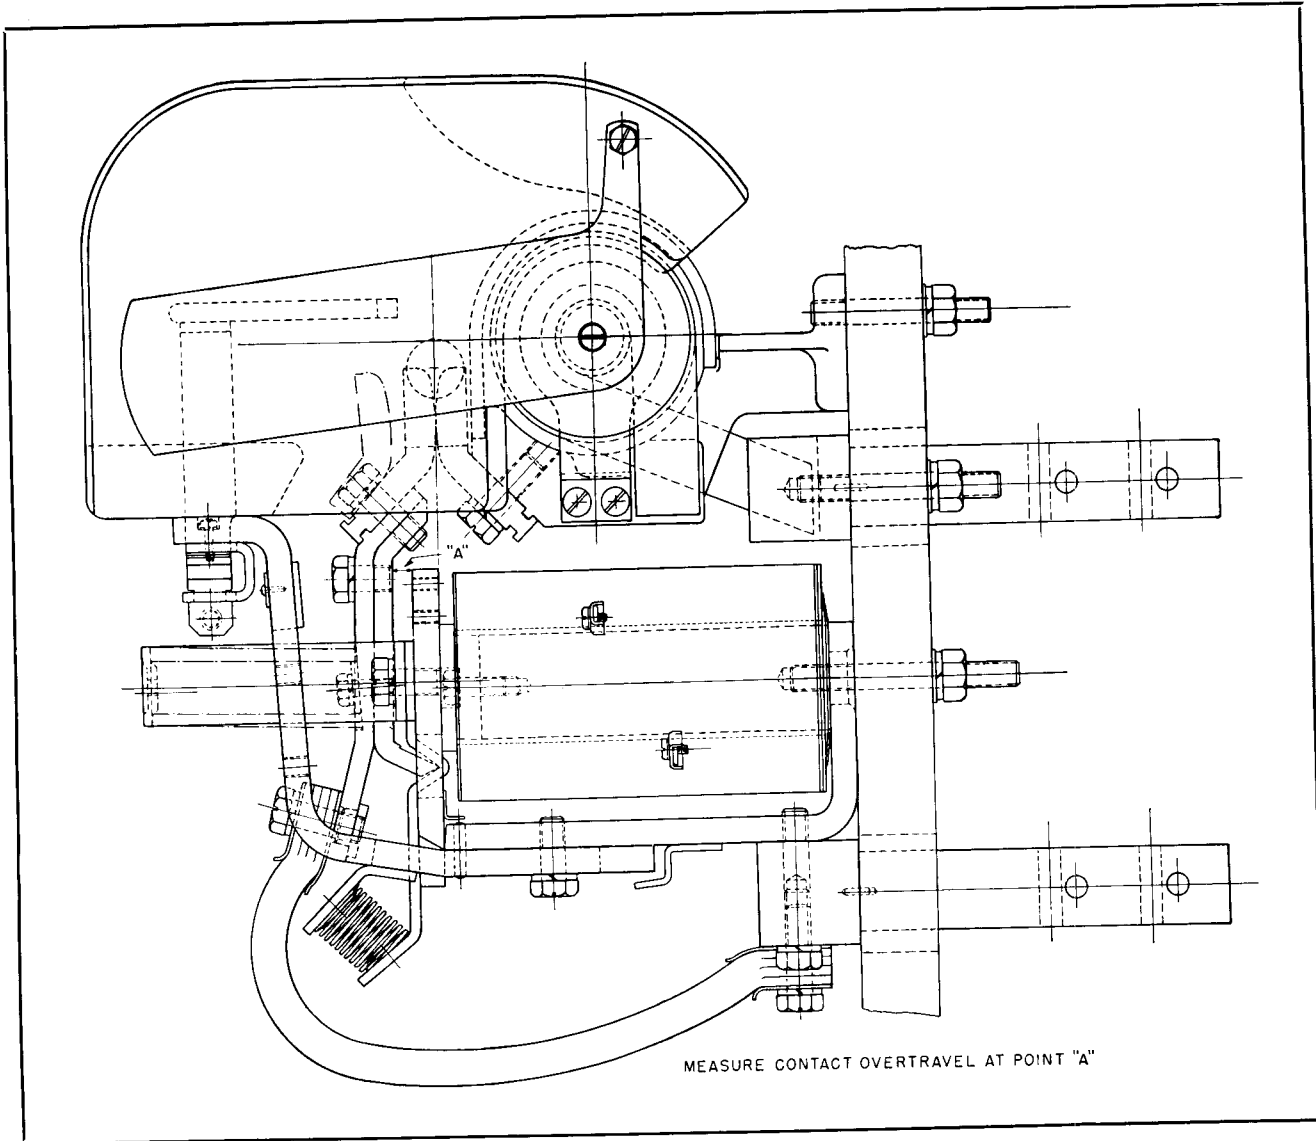

FIG. 3. Sectional View of Type M-810 Contactor with Armature Closed
When the contacts are new and the armature is closed either electrically or mechanically, the gap between the contact support bracket and the top of the armature plate, Dimension "A", Fig. 3, should be as shown in Table No. 4. Change contacts when this dimension is reduced to $\frac{1}{32}$ inch.
* Dimension "A" of Fig. 3.